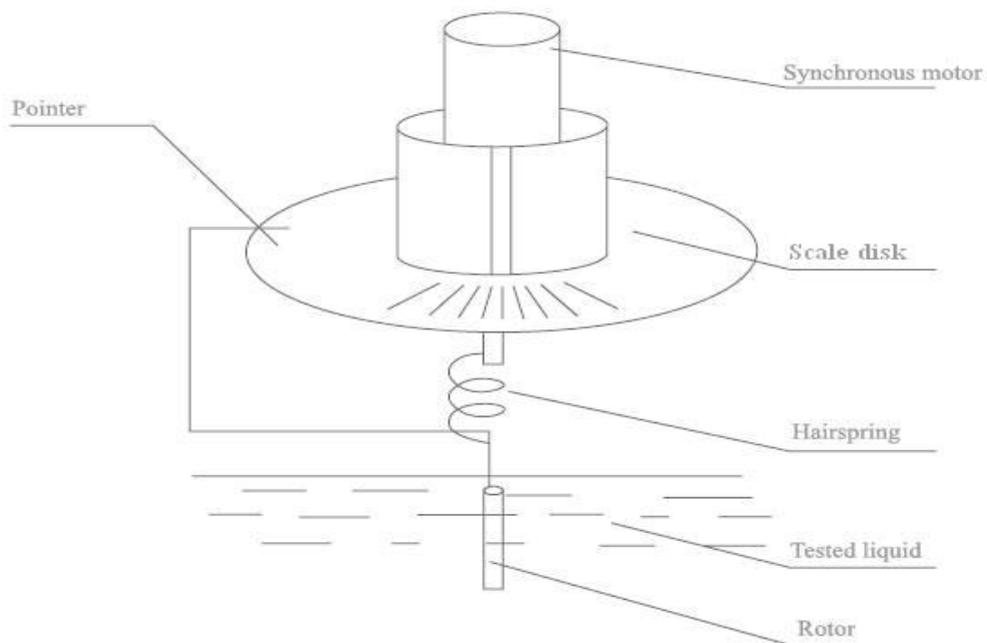

Figure 3
- 1) (Figure 3) Synchronous motor rotates with stable rate, connect scale disk, through hairspring and rotating shaft, drives rotors to rotate. The rotors will subject to a torque moment proportional to liquid viscosity because of the liquid viscose hysteresis. The torque moment will be measured by the sensors and processed into the viscosity and shown on the display.